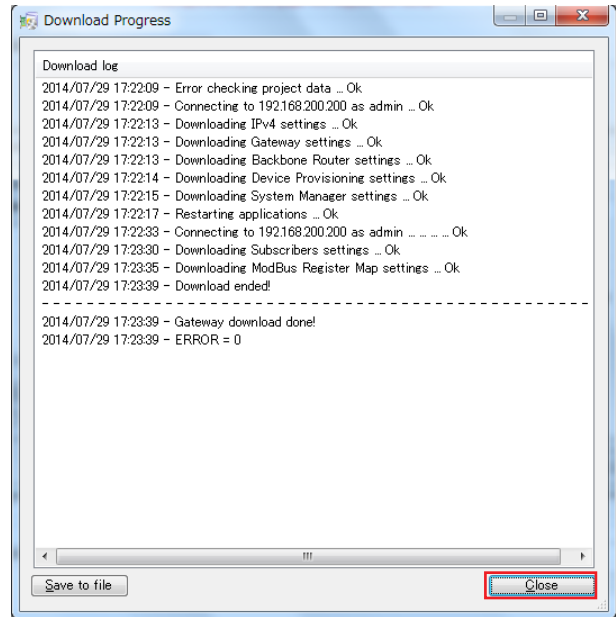

Figure 26
- ④ You will be asked to save the project again, so save it to GX20W-TEST01.yep (example). When a write confirmation message appears, click Yes.
- ⑤ When downloading completes successfully, a dialog box shown in figure 26 appears.